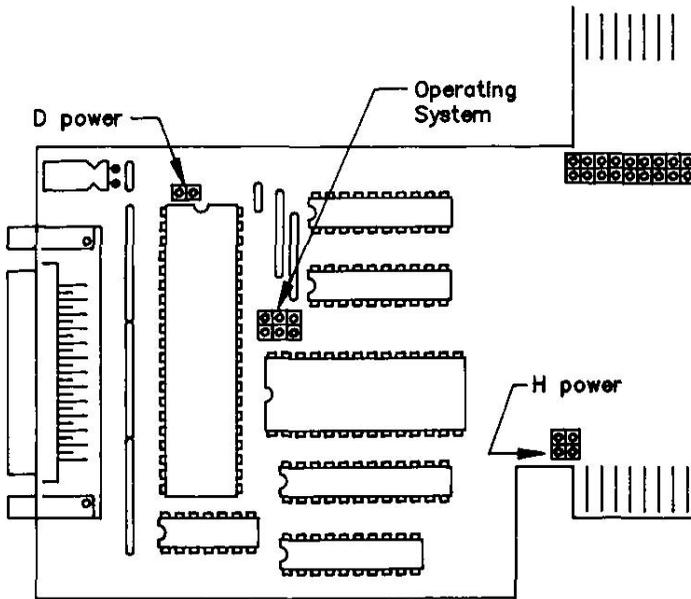

Fig. 2 - Jumper Locations
- 3) Orient the host adaptor so that it matches Fig. 2. Find the three areas marked. **Never change any other jumpers!**